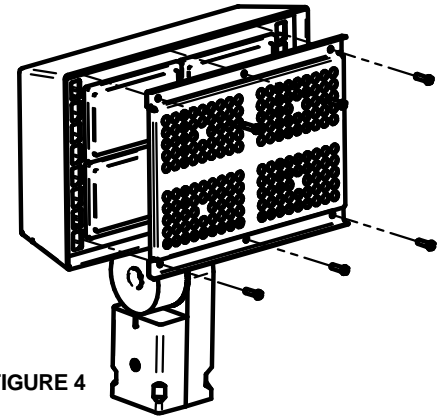

FIGURE 4
**Mounting the Louver System (See Fig. 4)**
- Place Louver System over lenses and drill 6 holes using a #24 (0.152" diameter) drill bit, 1/2" depth, through the mounting holes (Fig. 4). No tapping of the holes will be necessary after drilling.
**Installing the Photocontrol (See Fig. 4, 5, and 6)**